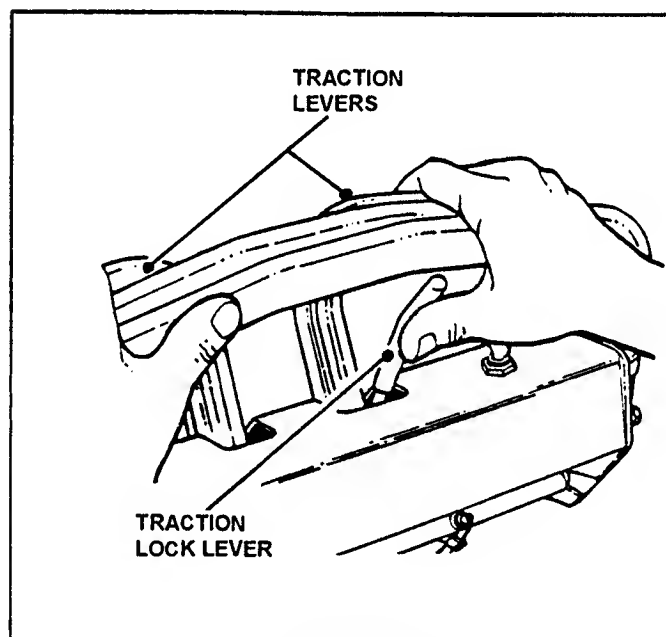

FIGURE 14
- 13.a. **LOOP HANDLE: TO STOP MOWER**, simultaneously squeeze both Traction Levers firmly against the handlebar while pushing the Traction Lock Lever forward, until latched. See Figure 14.
3. Move Transmission Shift Lever to **REVERSE (R)** position.
- 7a. **LOOP HANDLE - TO STOP MOWER**, simultaneously squeeze both Traction levers firmly against the handle while pushing the Traction Lock Lever full forward, until latched. See Figure 14.